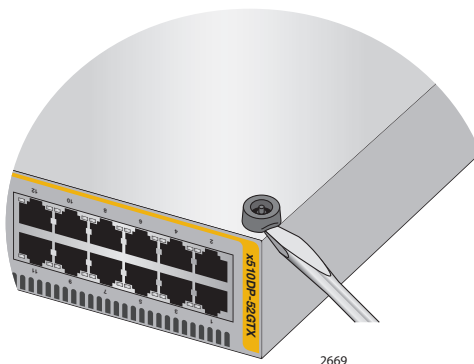

Figure 26. Removing the Rubber Feet
2. Using a flat-head screwdriver, pry the rubber feet from the bottom of the switch, as shown in Figure 26.